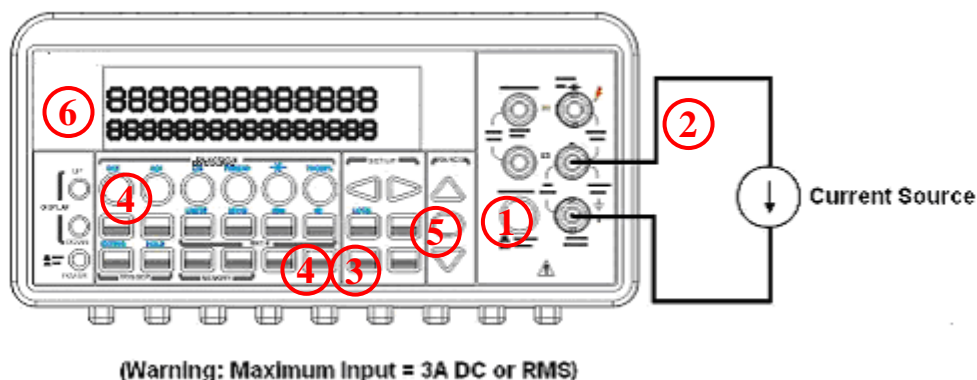

Figure 3-4
The ranges for DC current measurements in DL-2060 are 10mA, 100mA, 1A and 3A. For AC current measurements, the range is 1A with a sensitivity of 1 μ A to 3A AC-Coupled TRMS with a sensitivity of 10 μ A. **Figure 3-4** and **3-5** show you how to measure DC/AC currents in DL-2060.
- ① Selects input signal connections on front or rear panel.
- ② Connect the test leads to the terminals as shown in **Figure 3-4**.
- ③ Set RESOLUTION of DCI (Refer to 3.1.3), BANDWIDTH of ACI (Refer to 3.1.2.1) or skip this step if default is to be used.
- ④ Press SHIFT+DCI(DCV) or SHIFT+ ACI(ACV) buttons for DCI or ACI measurement.
- ⑤ Select the auto-range function by pressing AUTO button on the front panel or use Δ and ∇ buttons to select desired range.
- ⑥ Connect test leads to your source signal and observe the reading shown on the display. If the input signal is greater than the allowed range, an overflow message "OVLD" will be displayed.